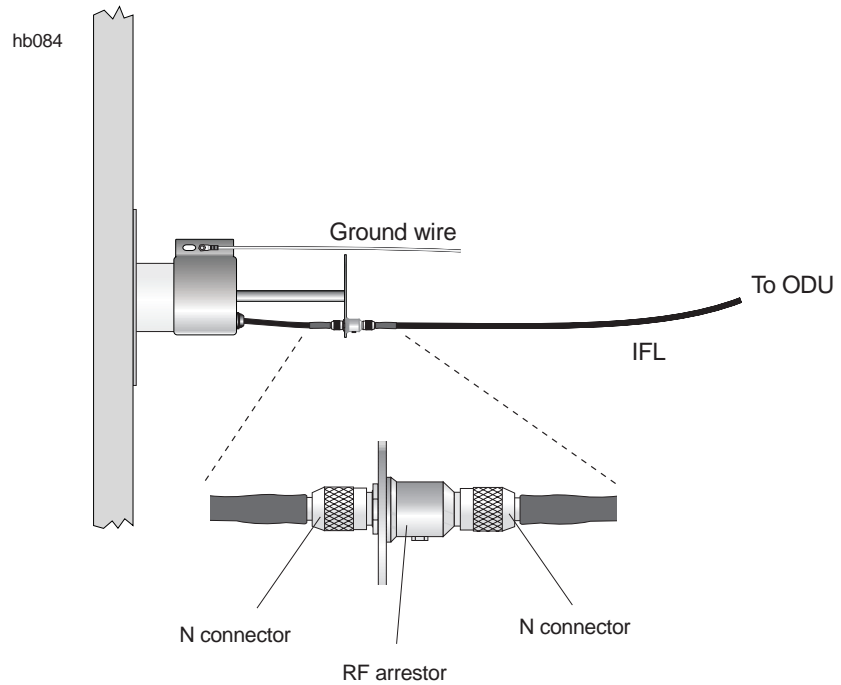

Figure 5-10 Connecting the IFL to the RF arrester
5. Connect the cable to the RF arrester, as shown in figure 5-10.